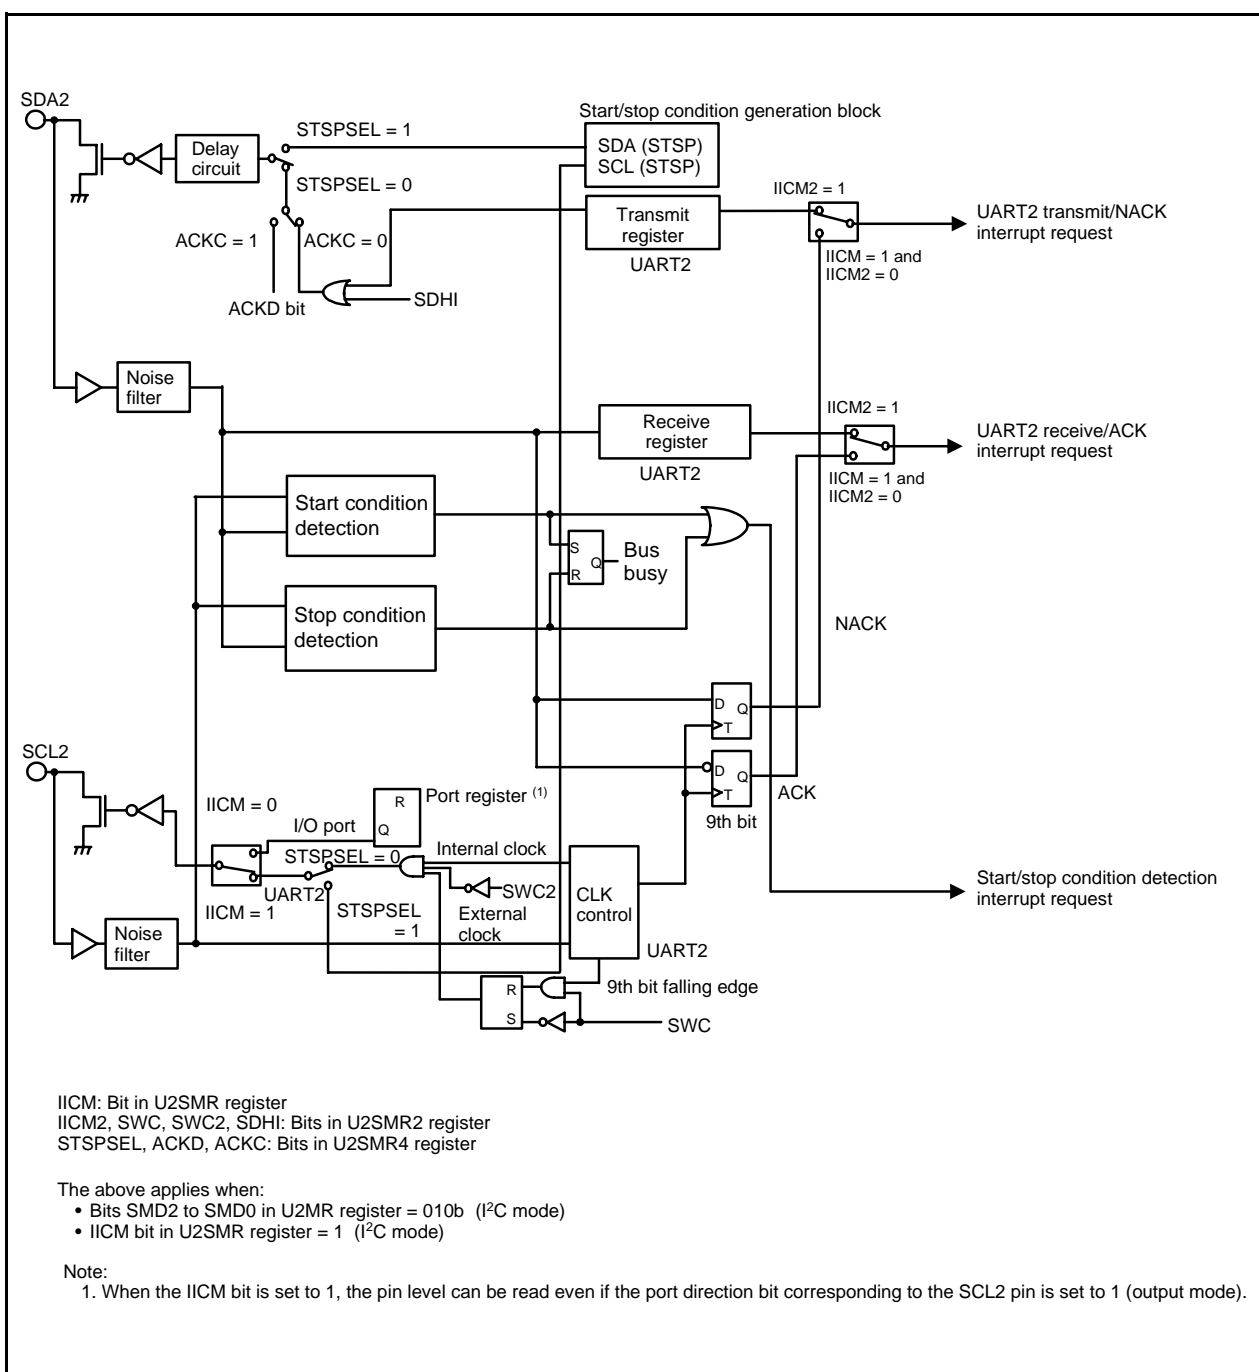
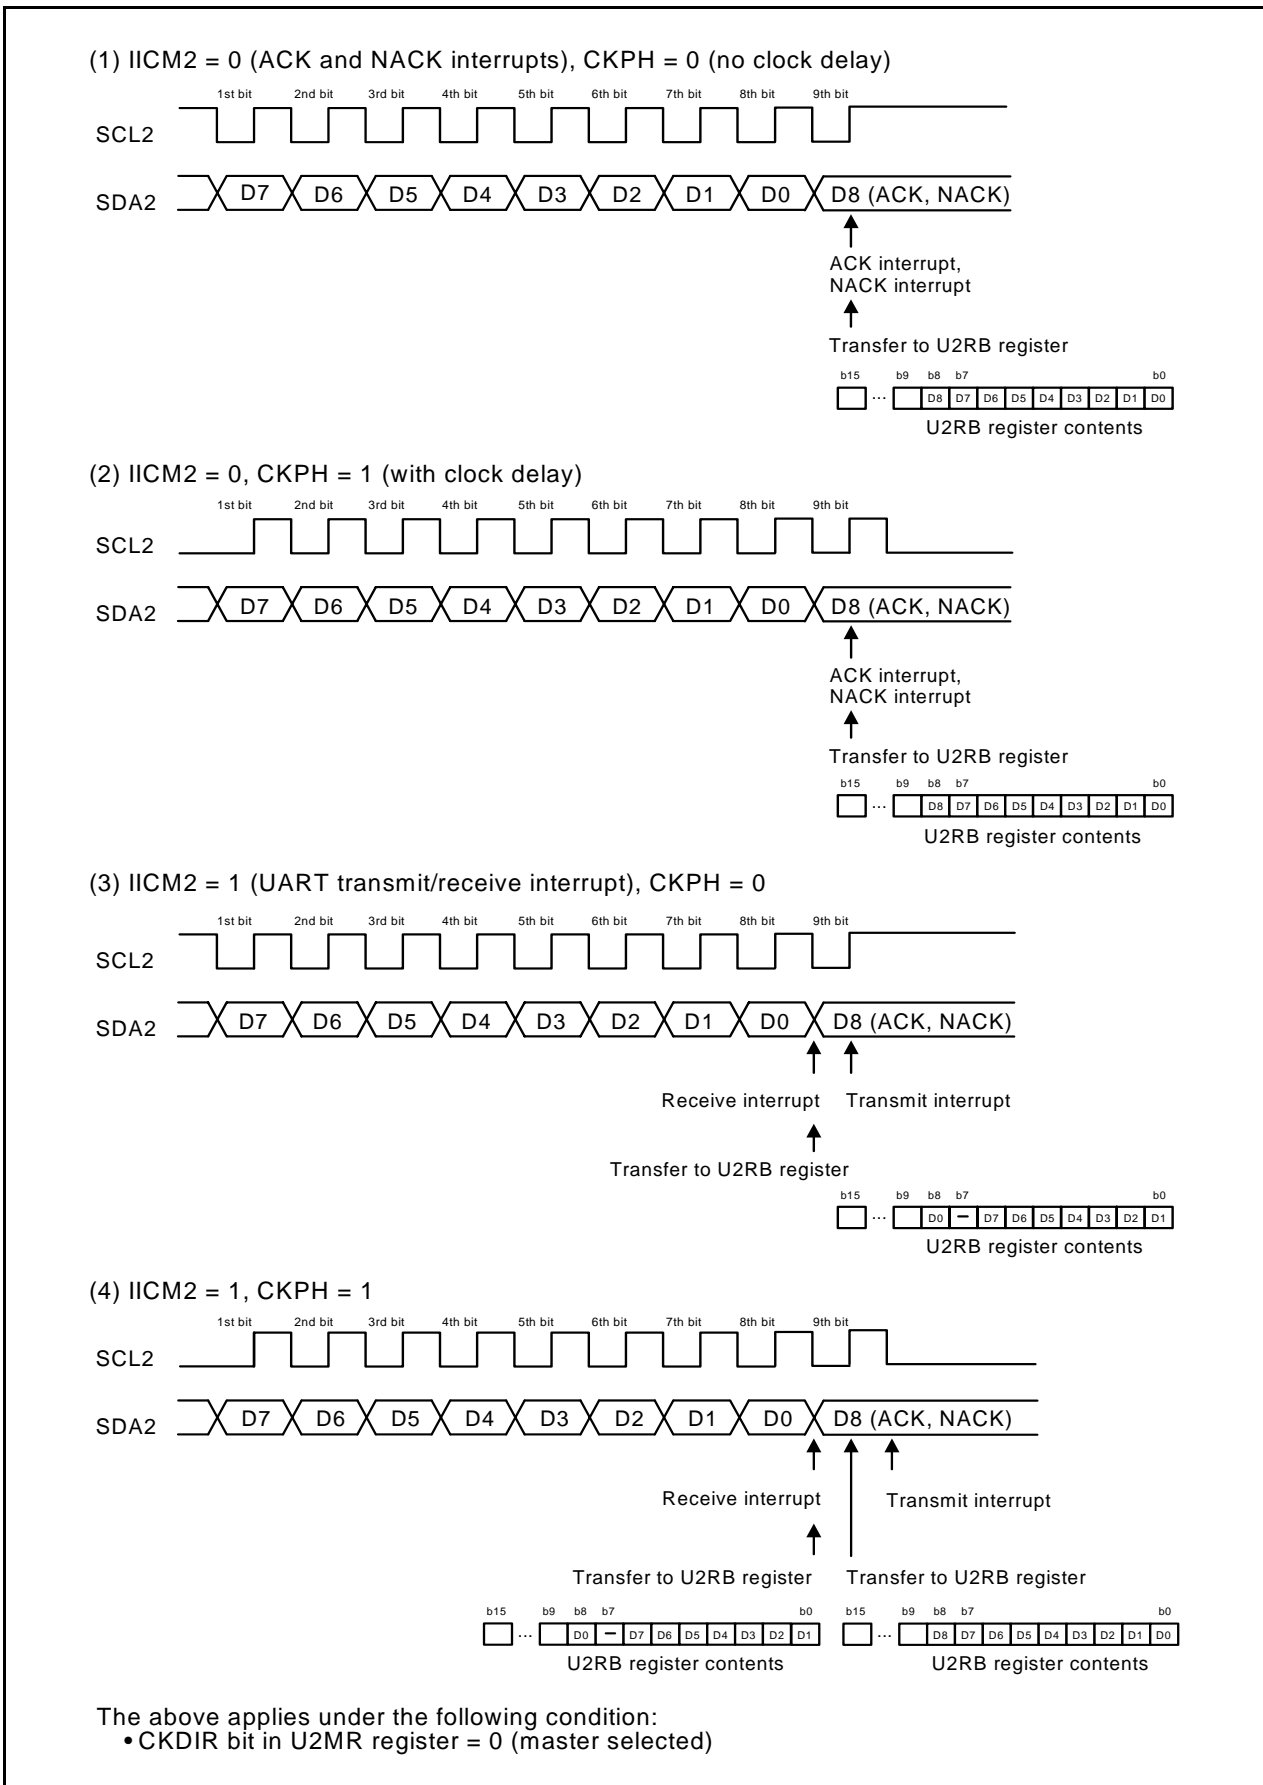

Figure 22.13 Block Diagram of I²C Mode
Figure 22.14 Transfer to U2RB Register and Interrupt Timing
I²C mode is provided for use as a simplified I²C interface compatible mode. Table 22.9 lists the I²C Mode Specifications. Tables 22.10 and 22.11 list the registers used in I²C mode and the settings. Table 22.12 lists the I²C Mode Functions, Figure 22.13 shows a Block Diagram of I²C Mode, and Figure 22.14 shows the Transfer to U2RB Register and Interrupt Timing.
- Refer to **Figure 22.14 Transfer to U2RB Register and Interrupt Timing**.
The transfer clock is used to transmit and receive data as is shown in **Figure 22.14 Transfer to U2RB Register and Interrupt Timing**.